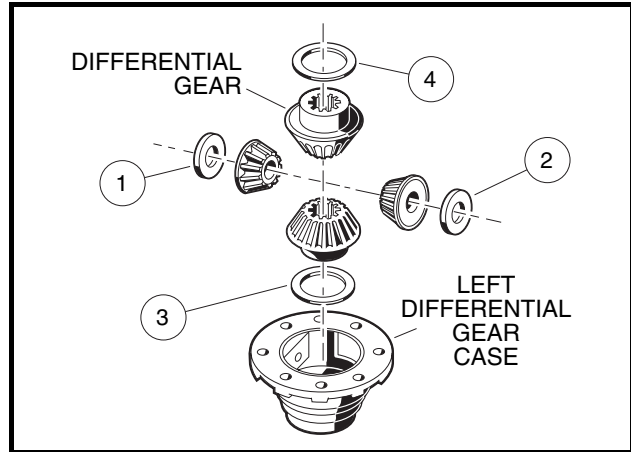

Figure 16-16 Left Differential
- 8.5. Remove the idler gears and thrust plates (1 and 2) (**Figure 16-16, Page 16-9**).